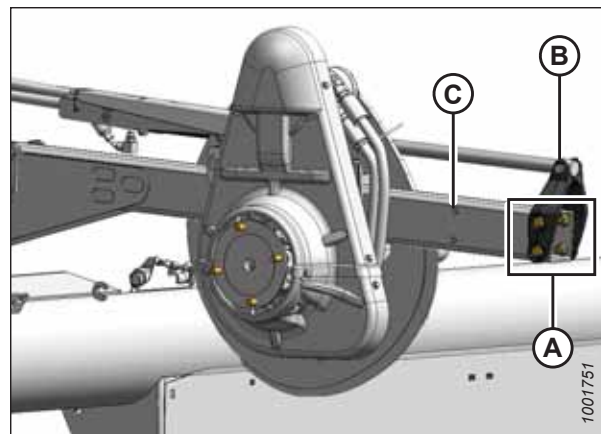

Figure 3.73: Forward Position
3. Remove four bolts (A) securing cylinder bracket (B) to the reel arm.
4. Position reel until bracket (B) lines up with desired position holes (C):
- Forward position, refer to Figure 3.73, page 85